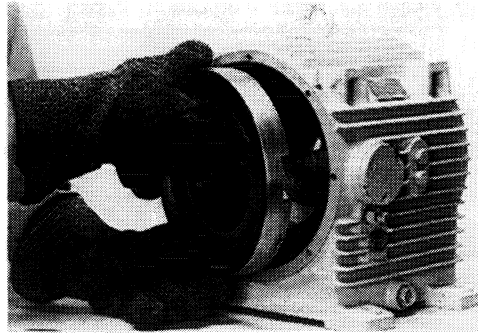

Fig. 21
Wear heavy gloves to remove the external sliding ring (5). If necessary, use a pry bar to loosen it (Fig. 21).